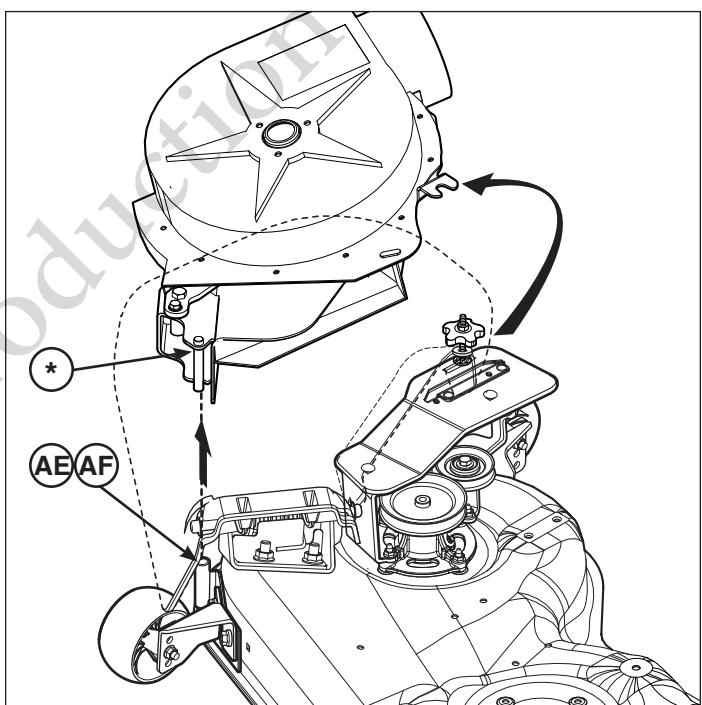

Figure 37
8. Pull out turbo pivot pin (*, Figure 37) from turbo pivot bracket (AE / AF).